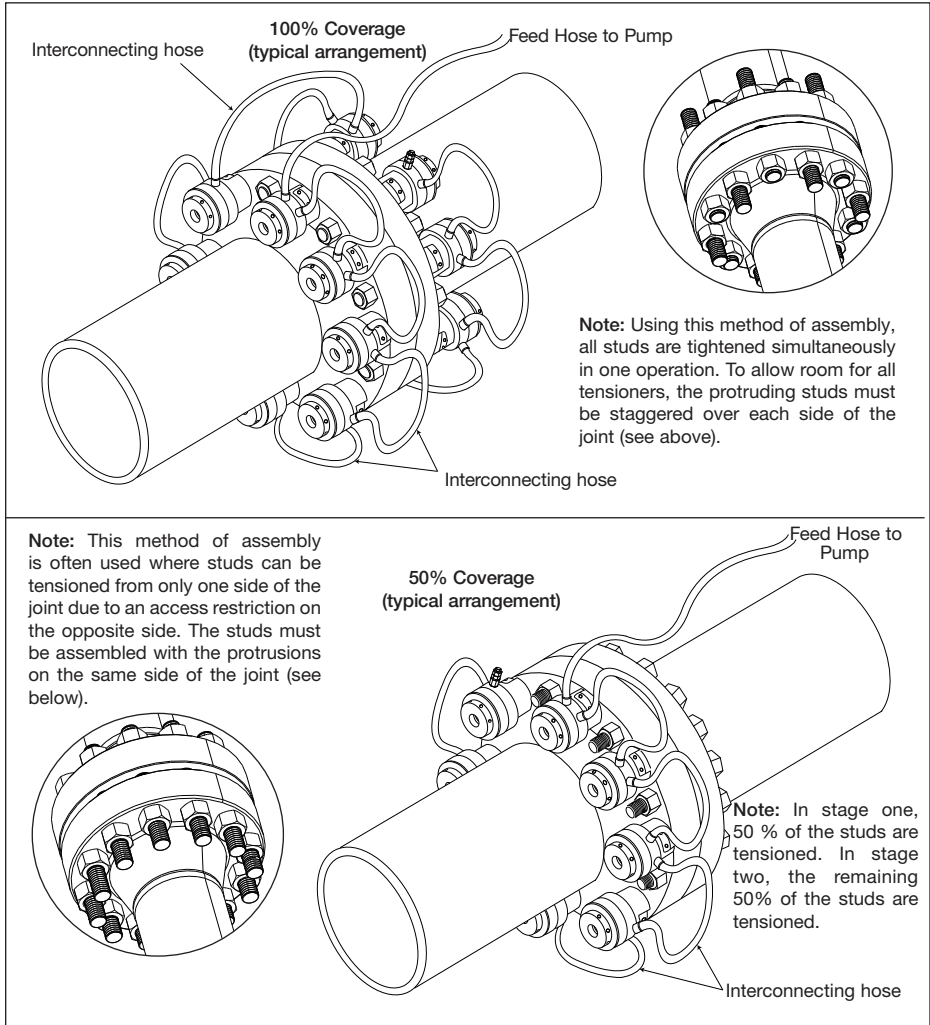

FIGURE 7, HYDRAULIC TENSIONER MOUNTING ARRANGEMENTS (TYPICAL)
Hydraulic tensioners can be mounted on either one or both sides of the joint, depending on available clearance and work room. Whenever possible, all studs on the joint should be tensioned at the same time. Typical examples of 100% and 50% tensioner coverage are shown in Figure 7. Contact Enerpac for additional information regarding tensioner arrangements of less than 50% coverage.
**IMPORTANT:** If any leaks occur, immediately stop the pump and open the pressure release (return-to-tank) valve. Be sure that the oil pressure gauge indicates zero (0) psi/bar. Make repairs as required before continuing with tensioning procedures.
**Note:** For improved illustration clarity, only one hydraulic hose is shown connected to the tensioner in figures 7 to 11.